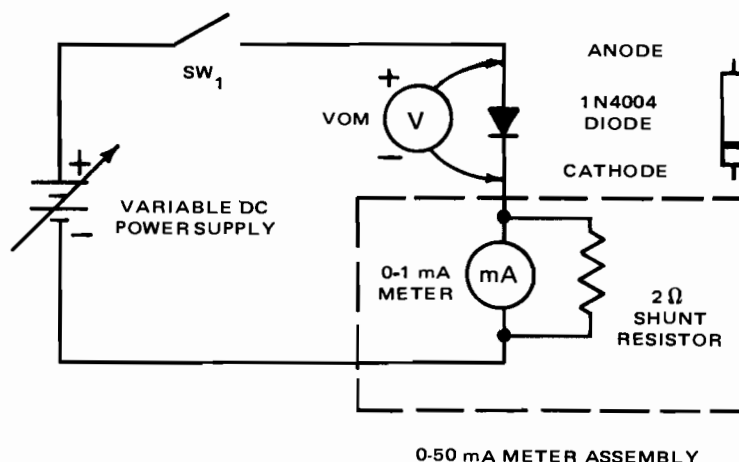

Fig. 13-2-1
1. Construct semiconductor diode test circuit as in Fig. 13-2-1. Note that 0-1 mA meter has a shunt resistor which extends its range to 50 mA.
9. Reverse polarity of diode in Fig. 13-2-1.